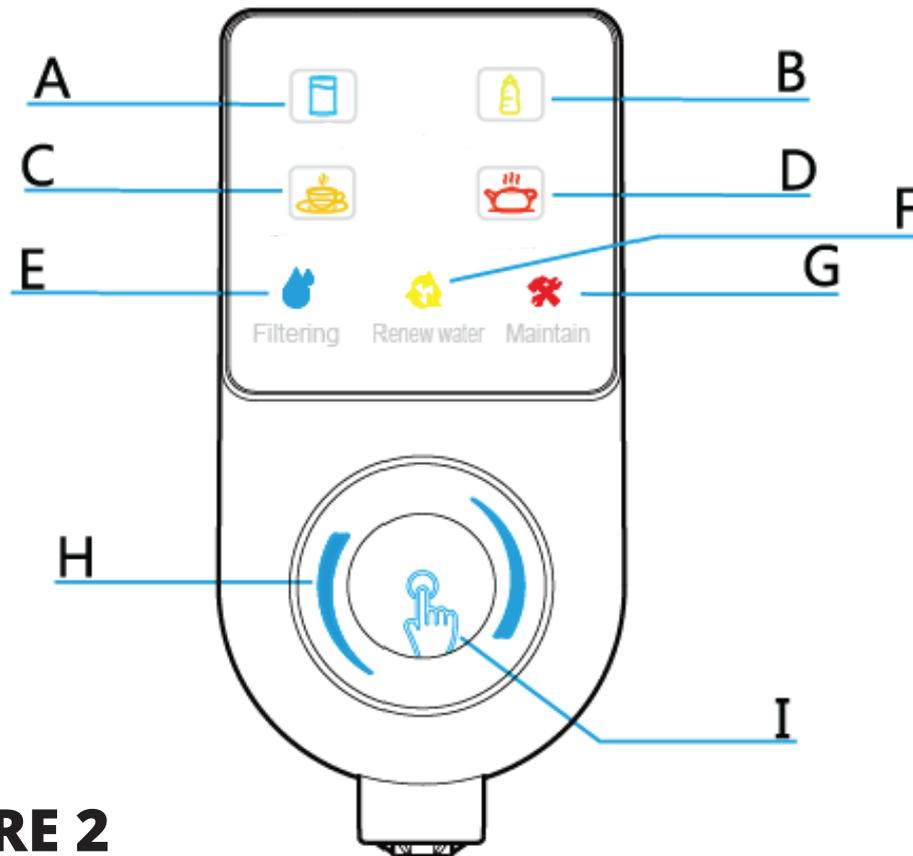

FIGURE 2
- After the setup, the machine automatically enters the flushing state and works for 120 seconds. In the flushing state, the filtering symbol of the display interface light will be on (see Figure 2).
- After flushing, the machine automatically enters the filtering state. The filtering symbol on the display interface light will be on (see Figure 2).
- The system will detect the source water quality in normal operation. If the water level is lower than the set level, the user will be prompted to replace the source water. You must empty the Supply Pitcher every time it is refilled. The renew water symbol of the display interface will light on at this time (see Figure 2).